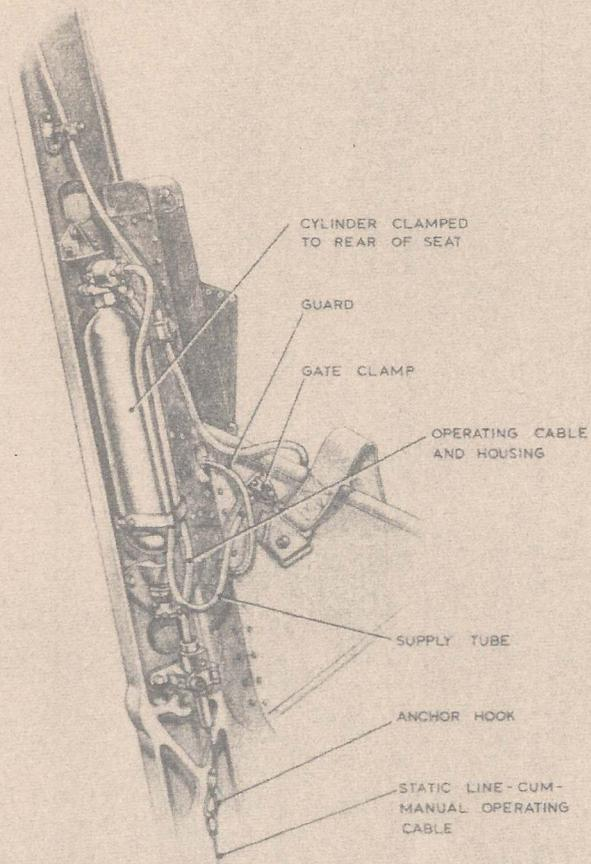

Fig. 1. Arrangement of emergency oxygen supply
14. When installing the equipment in the seat adopt the following procedure; refer to fig. 1, 2 and 3 as necessary:—